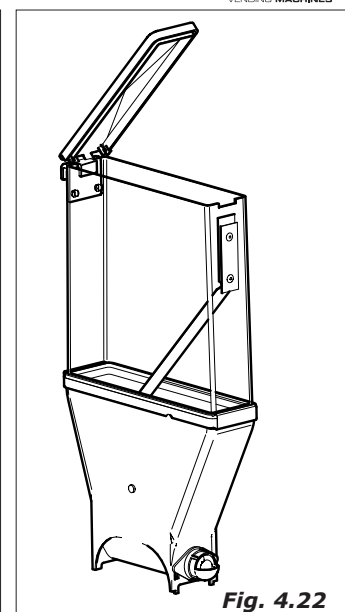

Fig. 4.22
- remove the lids from the product containers covers and product chutes (Fig.4.22). Dip all in the solution previously prepared